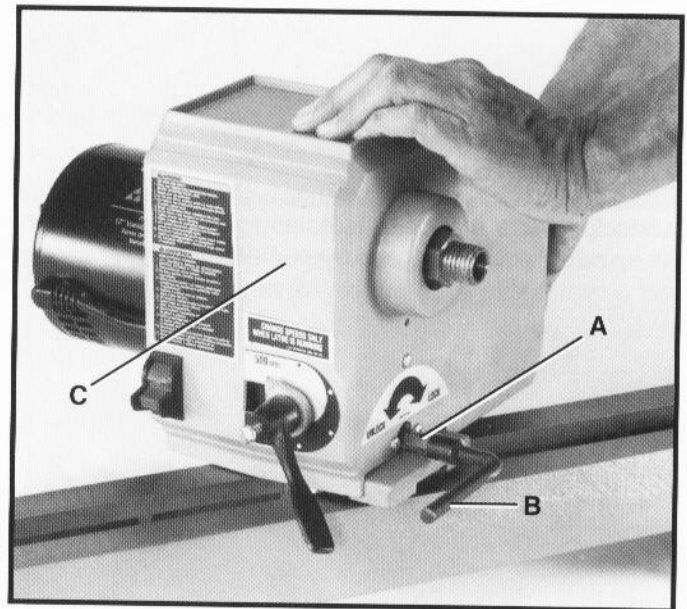

Fig. 88
1. Loosen the headstock locking rod (A) Fig. 88, with wrench (B) and move the headstock (A) to the center of the lathe bed. Turn the headstock (A) 90 degrees clockwise so that the spindle will be facing straight out. Then tighten the headstock locking rod.